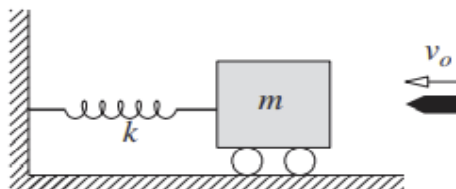

Fig. 10.1
10. The weight of the wooden block shown in Fig. 10.1 is 10 lb and the spring stiffness is 100 lb/in. A bullet weighing 0.5 lb is fired at a speed of 60 ft/sec into the block and becomes embedded in the block. Determine the resulting motion $u(t)$ of the block.